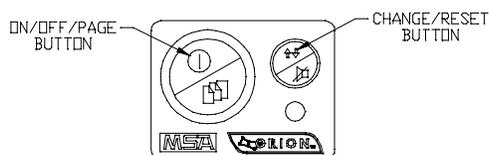

Figure 2-3. Orion Buttons
- Push the ON-OFF/PAGE button (FIGURE 2-3).